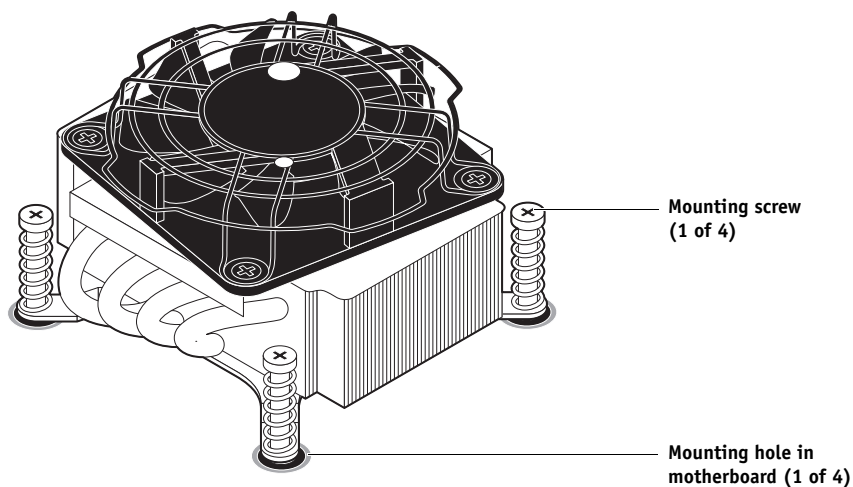

FIGURE 35: Removing/replacing the CPU cooling assembly
3. Loosen the four mounting screws that secure the CPU cooling assembly to the motherboard and motherboard tray (see Figure 35).
2. Place the cooling assembly on the CPU (see Figure 35 on page 106).